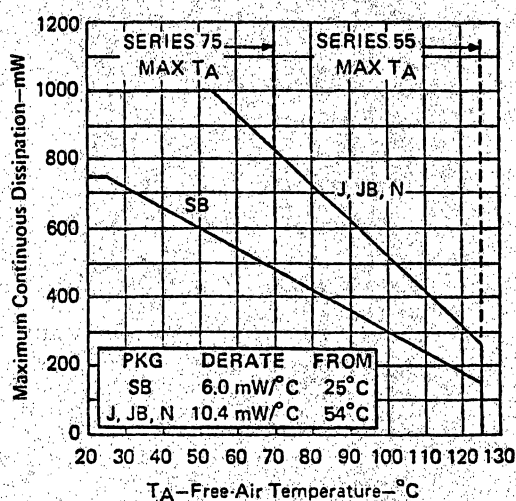

FIGURE 2
2. For operation above 100°C case temperature, refer to Dissipation Derating Curve, Figure 1. For dissipation ratings in free-air, see Figure 2.